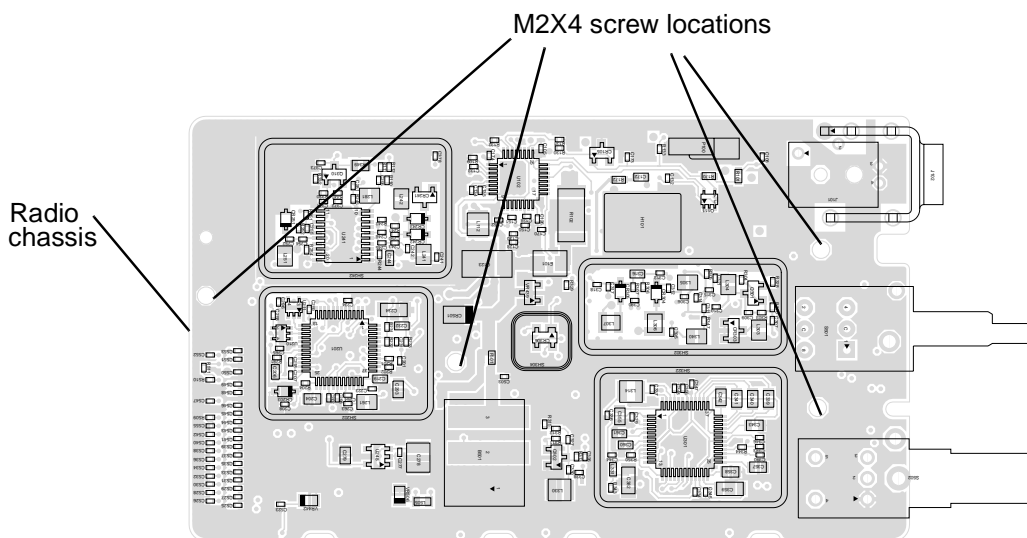

Figure 3-2. Circuit Board Removal and Reinstallation
1. Refer to the Basic Service Manual (see Chapter 3- Related Documents) for radio disassembly, then use a philips screwdriver and to remove the four M2X4 screws shown in Figure 3-2.